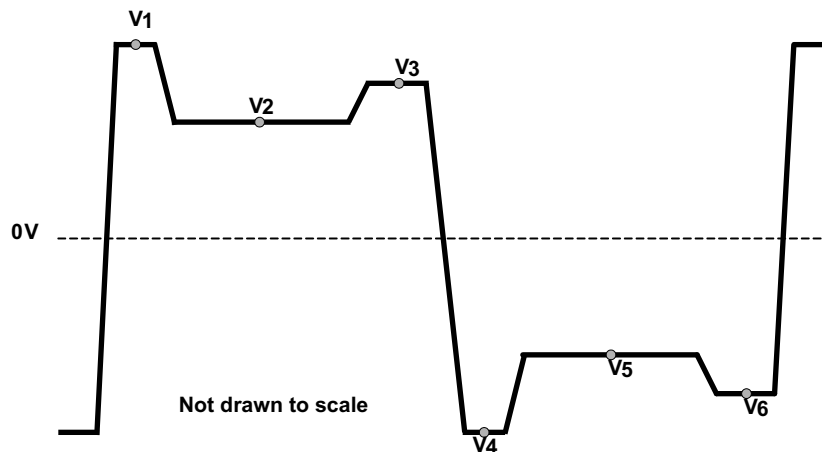
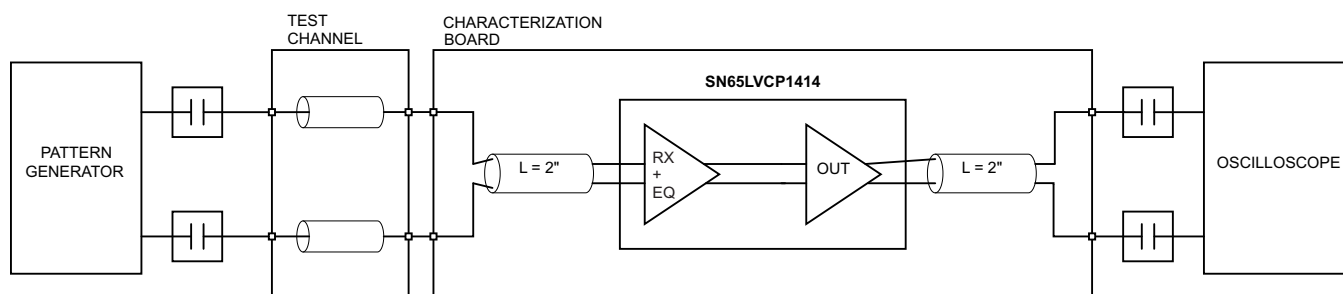
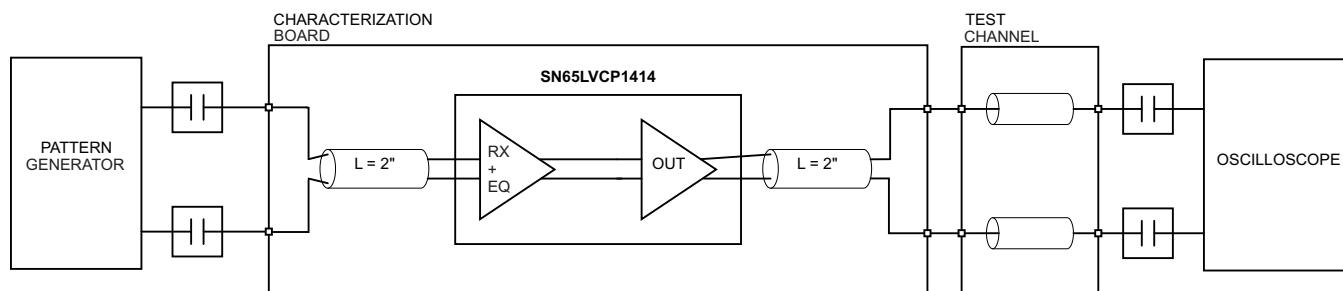

Figure 9. Vpre and Vpost (The test pattern is 1111111100000000 (8-1s, 8-0s))
Figure 10. Receive Side Performance Test Circuit
Figure 11. Transmit Side Performance Test Circuit
(2) Rise and Fall measurements include board and channel effects of the test environment, refer to Figure 10 and Figure 11
(3) t_{SK(O)} is the magnitude of the time difference between the channels.
(4) t_{SK(PP)} is the magnitude of the difference in propagation delay times between any specified terminals of two devices when both devices operate with the same supply voltages, at the same temperature, and have identical packages and test circuits.
(5) All noise sources added.
Regarding timing, the SN65LVCP1414 is I²C compatible. The typical timing is shown in Figure 9 and a complete data transfer is shown in Figure 10. Parameters for Figure 9 are defined in Table 3.